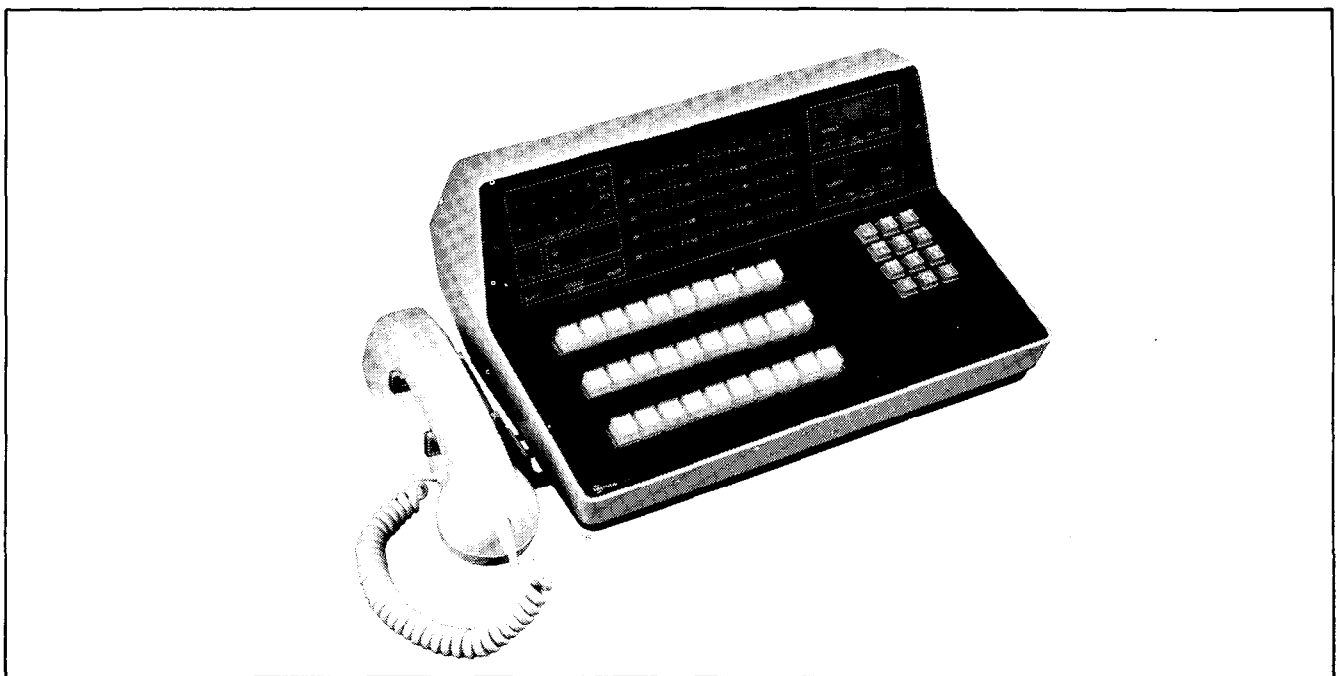

Fig. 2-6 Attendant Console
2.16 The SX-200 attendant console (Fig. 2-6) is enclosed in a housing with a black plastic faceplate. Located on either side of the console are a pair of headset/handset jacks allowing simultaneous operation and supervision. The console keyboard holds three rows of ten nonlocking keys for the selection of features and completion of calls. On the right of the keyboard is a 12-key pushbutton dial pad. The console display, mounted above the keyboard, displays the active states of calls in progress. In addition to the call status display is a busy lamp field, a trunk group status field, a call waiting indicator, a digital clock, and three alarm indicators. The weight of the attendant console is approximately 13lbs. (5.9kg) and its dimensions are: 13.75in. (350mm) wide, 6.8in. (176mm) high, 9.25in. (236mm) deep.